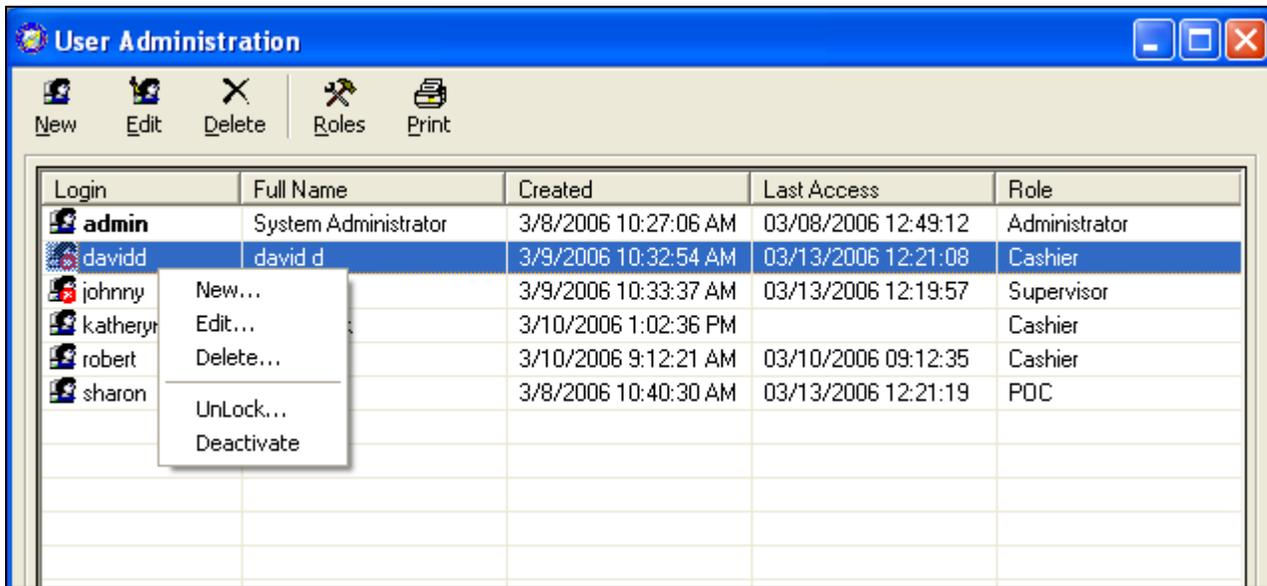

Figure 3.19
3. Right click on the Login to deactivate. A drop down menu appears with choices, as displayed in Figure 3.19.